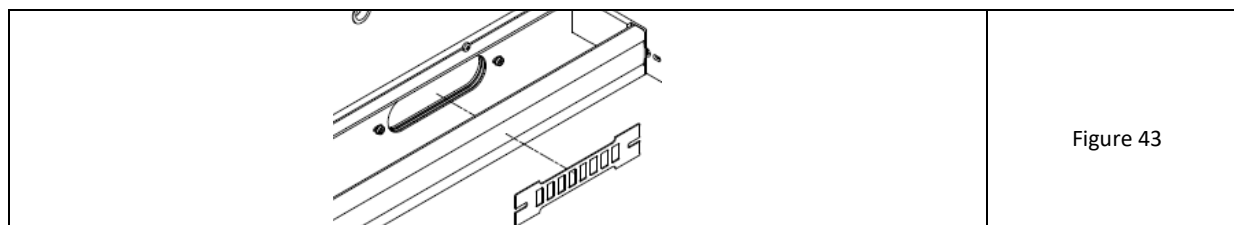

Figure 43
7. It is possible to install an additional protective grate on the oval outflow. To do this, loosen both M5 screws at the ends of the hole and insert the ends of the grate with the fork cut into one screw as far as it will go, and then move it back towards the other (fig. 43).